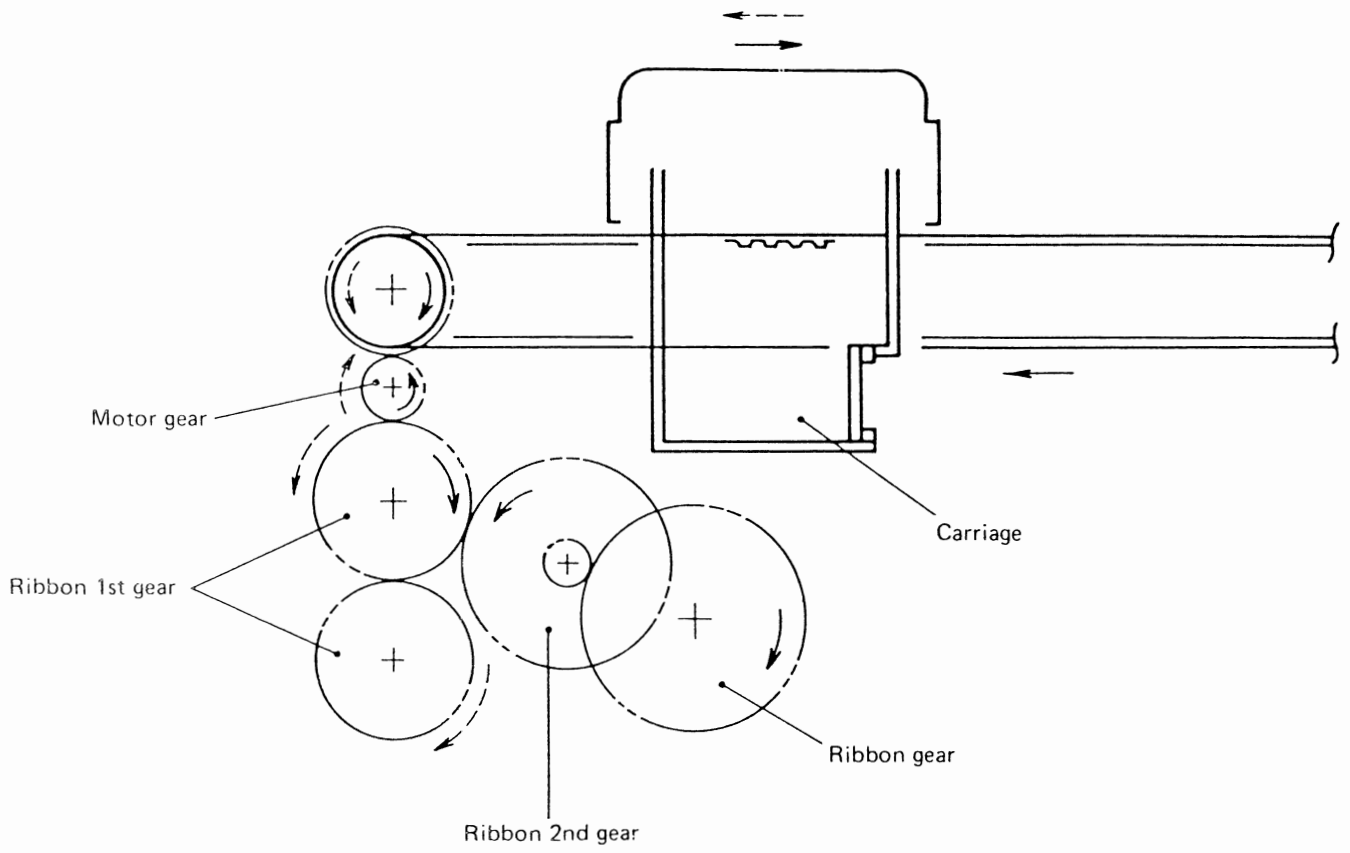

Fig. 3
(1) Ribbon feed operation (see Fig. 3)